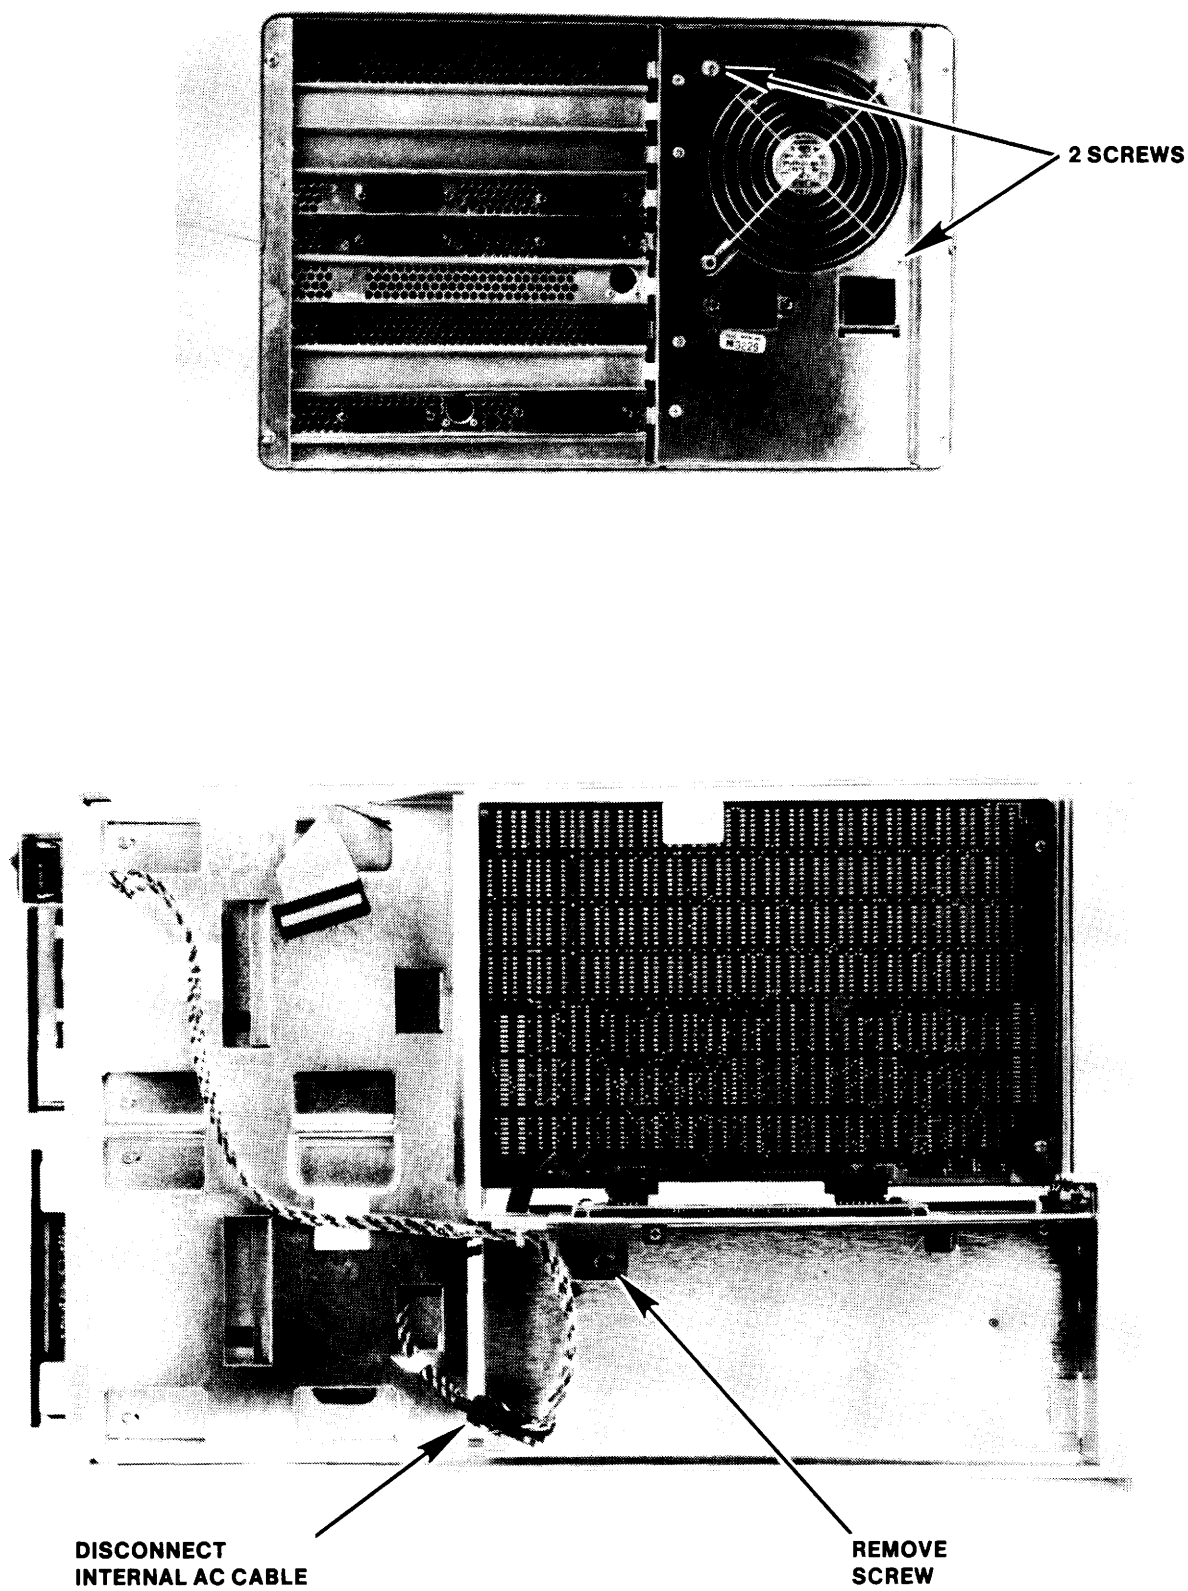

Figure 5-5. Power Supply removal/Replacement
- 1) Remove the ac cable from the power supply (if not previously removed). With the System unit in the vertical position (power supply down) and the Electronic Unit cover removed, remove the two screws at the rear of the unit that secure the power supply to the system rear panel. Be sure not to remove the two screws that mount the fan guard to the power supply. Remove the screw located on the side of the power supply directly below the non-component side of the system board. A total of three screws must be removed. See Figure 5-5.
- 2) Remove the main harness assembly connectors from the Motherboard connectors J1, J2, and J3. Remove the main harness connector (power) from the System Floppy Drive and optional floppy drive (if any). Disconnect the ac input to the power supply. See Figure 5-5 for ac input connector.